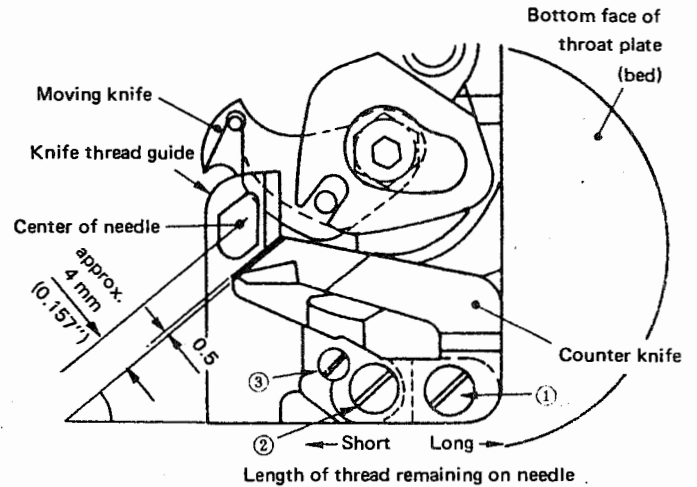
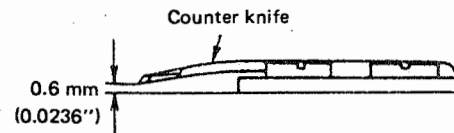

Fig. 17
Fig. 18
Refer to Fig. 17 for proper installation of the counter knife. The standard distance from the blade point of the counter knife to the knife thread guide, which is positioned so that the needle enters the center of its opening, is 0.5 mm (0.019"). At this time, the blade point of the counter knife is about 4 mm (0.157") away from the center of the needle. The blade point of the counter knife is located 0.6 mm (0.0236") above the installing surface as shown in Fig. 18.
Whenever the counter knife has been readjusted or replaced, be sure to check the sharpness of the counter knife, and adjust the installing angle (A in Fig. 17) of the counter knife. The installing position of the counter knife can be moved to the right from the standard position.
Change the knife thread guide by loosening screws ② and ③, with screw ① (Fig. 17) left tightened. If the installing angle of the counter knife has been disturbed, readjust it in accordance with 3-8. "Installing the counter knife".